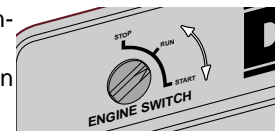

FIGURE 18: ELECTRIC START SWITCH
2. Turn starter switch to the start position. See Figure 18.